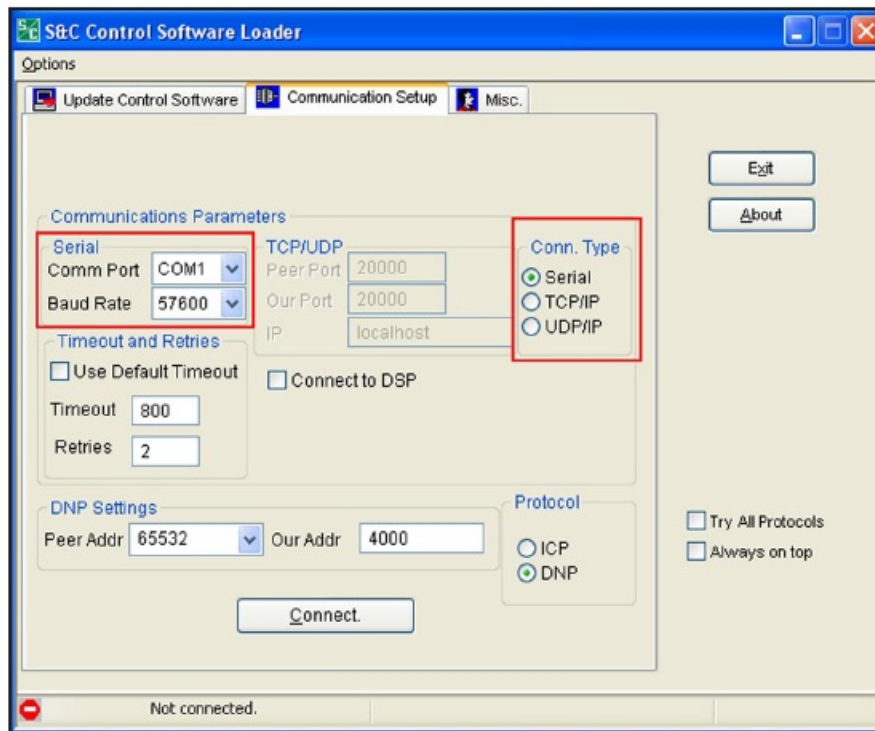

Figure 13. The Communications Setup dialog box.
- **STEP 3.** When the DU connection status changes from Trying connection on 127.0.0.1 to Not connected, click on the Communications Setup tab at the top center of the dialog box. A new dialog box appears. See Figure 13.
- **STEP 4.** The settings may not exactly match Figure 13, but the important parameters are shown there. Set the Conn. Type to “Serial” and select the correct Comm Port. The Baud Rate should be set to “57600.” Do not change the DNP Settings, the Peer Addr, or Our Addr entries. Use the configured settings.